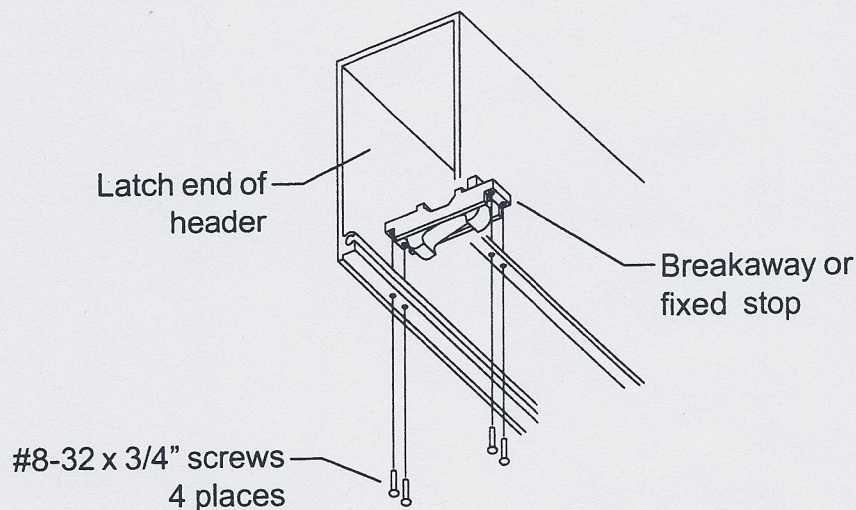

Figure 7-2
- 7.2. Install the breakaway or fixed stop inside the header approximately 2-1/4" from the latch end using the four #8-32 x 3/4" screws supplied with the stop (Figure 7-2). Mounting holes for the stop have been prepared in the header at the factory.